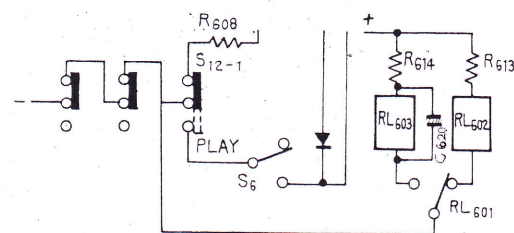

Fig. 6
• Take-up Torque Control in PLAYBACK (Fig. 6, 7)